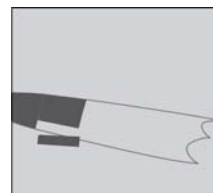

Figure 9:
7. Apply the PreMark® material with exposed bead side up immediately after the sealer has been applied, following handling procedure described in Step 2 above. Position material so that edges of adjacent sheets fit snugly together and that the pattern of the marking aligns properly from sheet to sheet. *See Figure 9.* There should be no gaps between the adjoining segments. You may overlap the edges slightly. Check to ensure that proper layout and alignment is obtained before heating the material. Heating should begin immediately after proper layout has been confirmed.